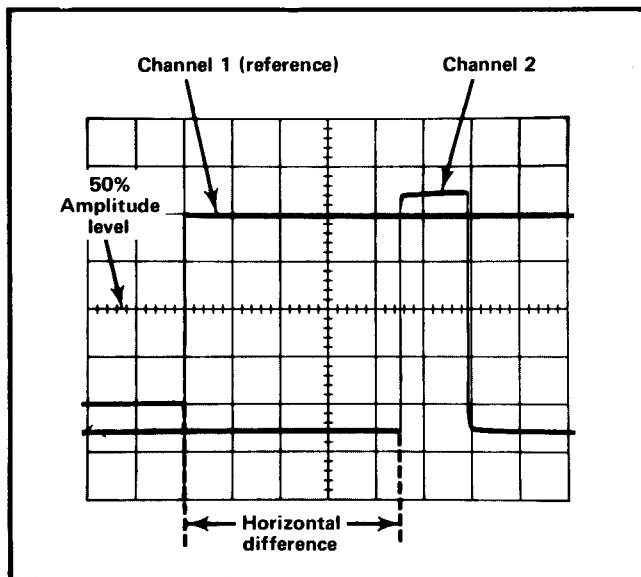

Fig. 2-11. Measuring time difference between two pulses.
11. Measure the horizontal distance between the Channel 1 waveform and the Channel 2 waveform (see Fig. 2-11).
EXAMPLE. Assume that the TIME/DIV switch is set to 50 μ s and the horizontal distance between waveforms is 4.5 divisions (see Fig. 2-11).